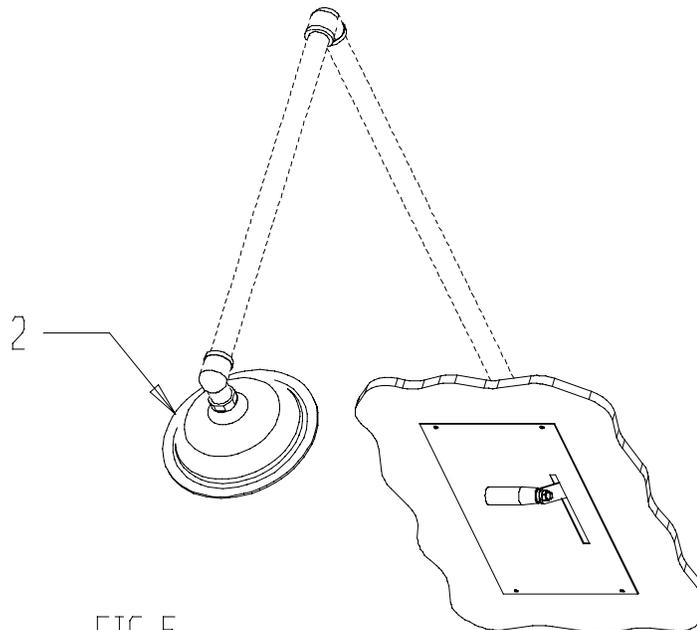

FIG 5
7. Assemble showerhead to 1" pipe as shown in fig. 5. **Make note that ANSI specifies that showerhead must be 82"-96" from the surface on which the user stands.**